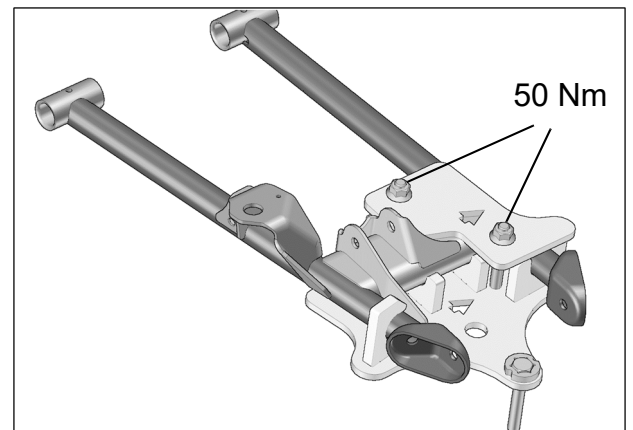

Fig. 9
8. Tighten assembly to 50 N•m [37 lb•ft] of torque. See Fig. 9